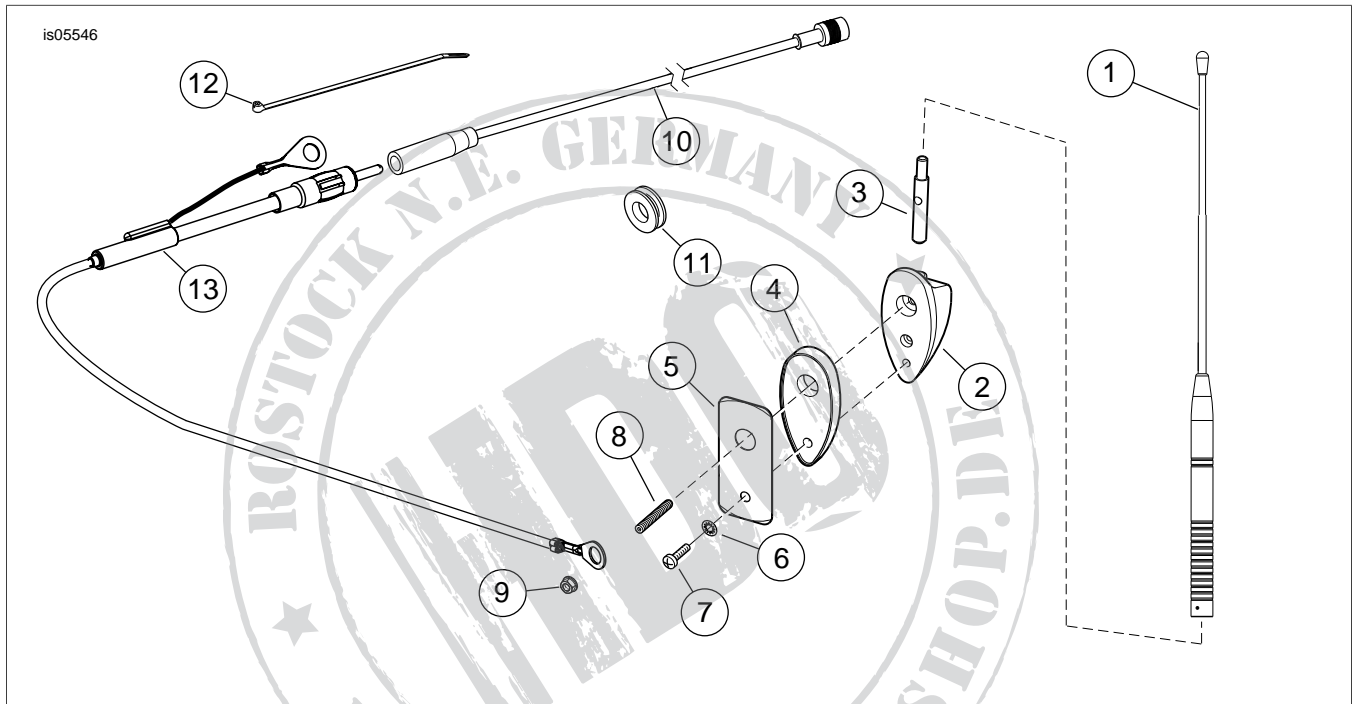

Figure 4. Service Parts: Advanced Audio CB Antenna Kit
See Figure 4 and Table 1.
16. See Figure 4. Insert the adapter (3) into the hole on the **top** of the antenna base (2).
17. Line up the threaded hole in the **SIDE** of the adapter with the upper hole on the back side of the base. Insert the threaded stud (8) into the **upper** hole on the back side of the base, and thread the stud into the hole in the adapter. Tighten the stud securely.
18. Assemble the base gasket (4) to the antenna base.
19. With the adapter (3) facing **up**, position the base assembly over the holes drilled earlier in the outside rear Tour-Pak wall. Be sure the threaded stud (8) goes through the larger (top) hole.
20. Place the antenna reinforcement plate (5) in position inside the Tour-Pak. Place the ring terminal over the antenna mast stud. Use the hex nut with lock washer (9) to attach the cable extension, but do not fully tighten at this time.
21. Install the TORX® screw (7) and small lockwasher (6) through the smaller (bottom) hole of the antenna reinforcement plate into the antenna base. Tighten the screw securely. Tighten the hex nut securely.
22. Install the antenna mast (1) onto the antenna base adapter (3).